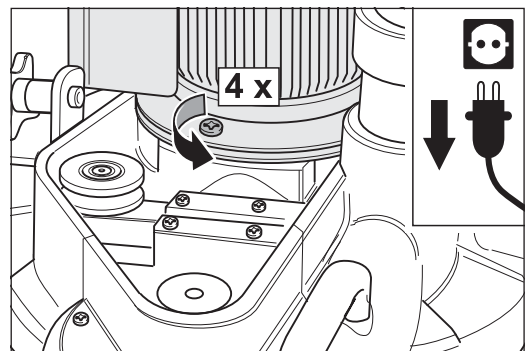
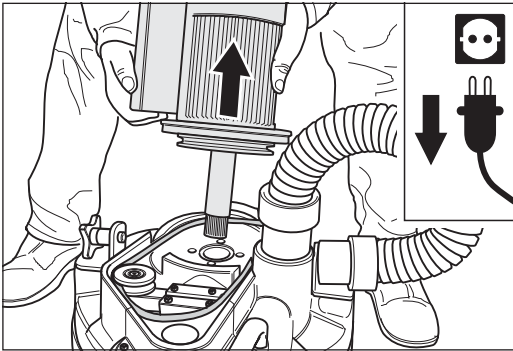

Fig. 94 Remove the four screws which fix the motor to machine housing.
Fig. 95 Lift the motor off the machine housing vertically and remove the V-belt.
- 12 Remove the four screws which fix the motor to machine housing (fig. 94) and lift the motor off, keeping it in a vertical position. The V-belt can now be removed (fig. 95).